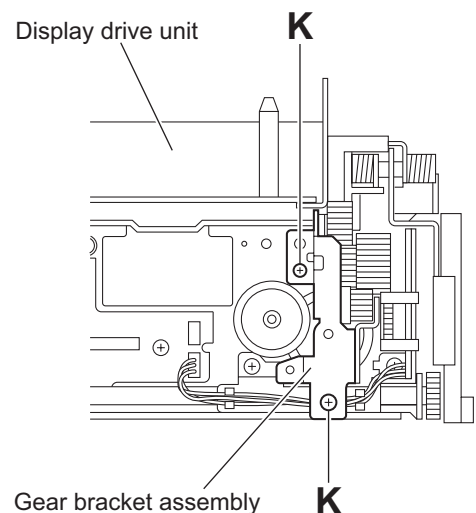
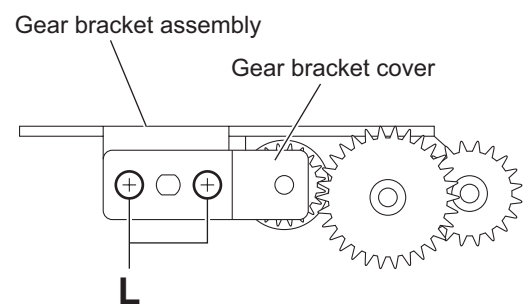

Fig.18
Fig.19
- (4) Remove the two screws **K** attaching the gear bracket assembly. (See Fig.18.)
- (5) Take out the gear bracket assembly with other parts from the display drive unit.
- (6) From the left side of the gear bracket assembly, remove the two screws **L** attaching the gear bracket cover. (See Fig.19.)